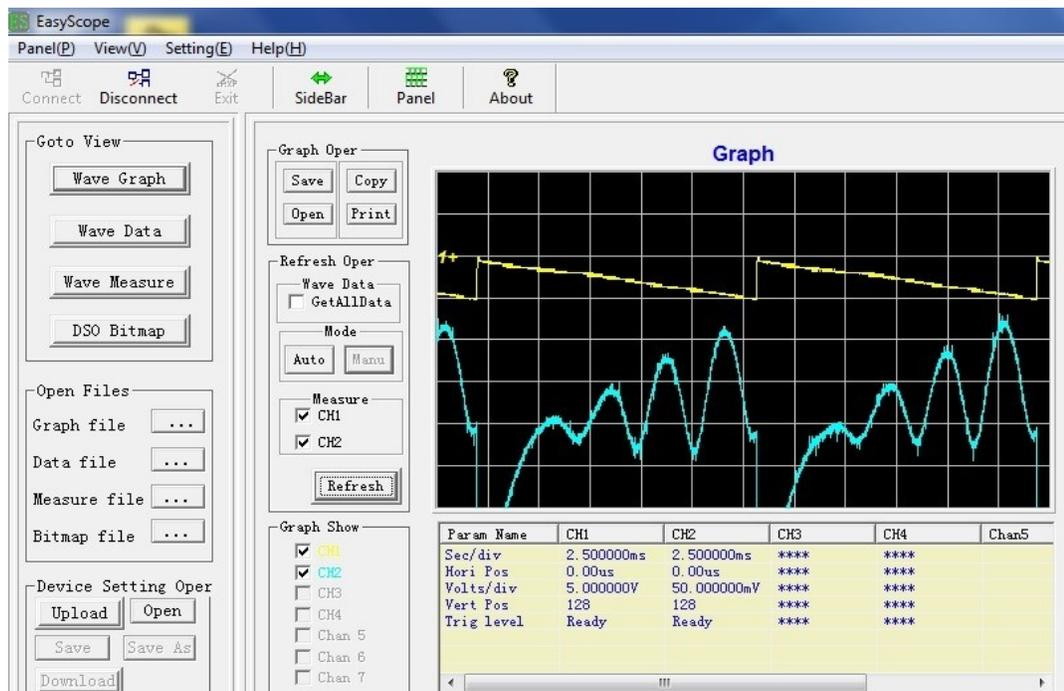

Figure 4 Experimental waveform acquired by PC from oscilloscope
- 10) If the oscilloscope is a digital oscilloscope with a USB port, the experimental data can be acquired from the oscilloscope to a PC for processing as shown in Figure 4. Using X-Y mode, a Lissajous figure is displayed.